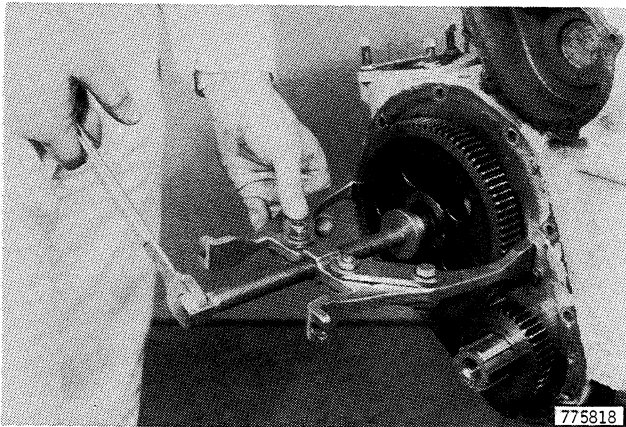

Figure 72
- 7. Pull the gear from the camshaft, Figure 72.